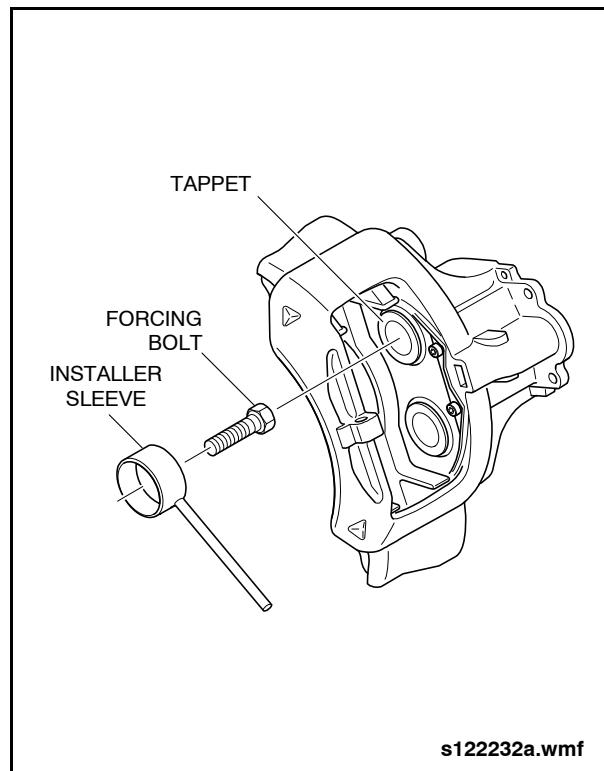

Fig. 1-71: Seating Tappet Against Stop
10. Reverse the position of the installer sleeve so that the open end is facing away from the tappet and boot assembly and the head of the forcing bolt is facing the tappet. See "Fig. 1-71: Seating Tappet Against Stop" on page 72.